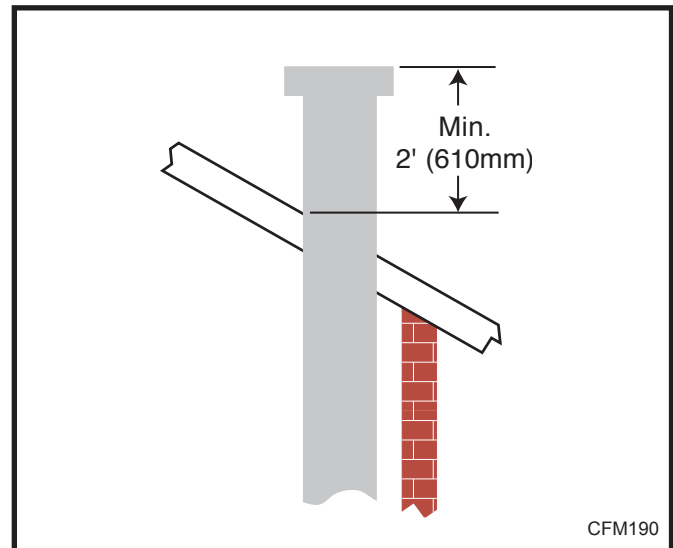

Fig. 38 Minimum termination to roof clearance.
- The minimum height of the vent above the highest point of penetration through the roof is 2' (610 mm). (Fig. 38)
10. Add additional vent lengths for proper height. (Fig. 38)